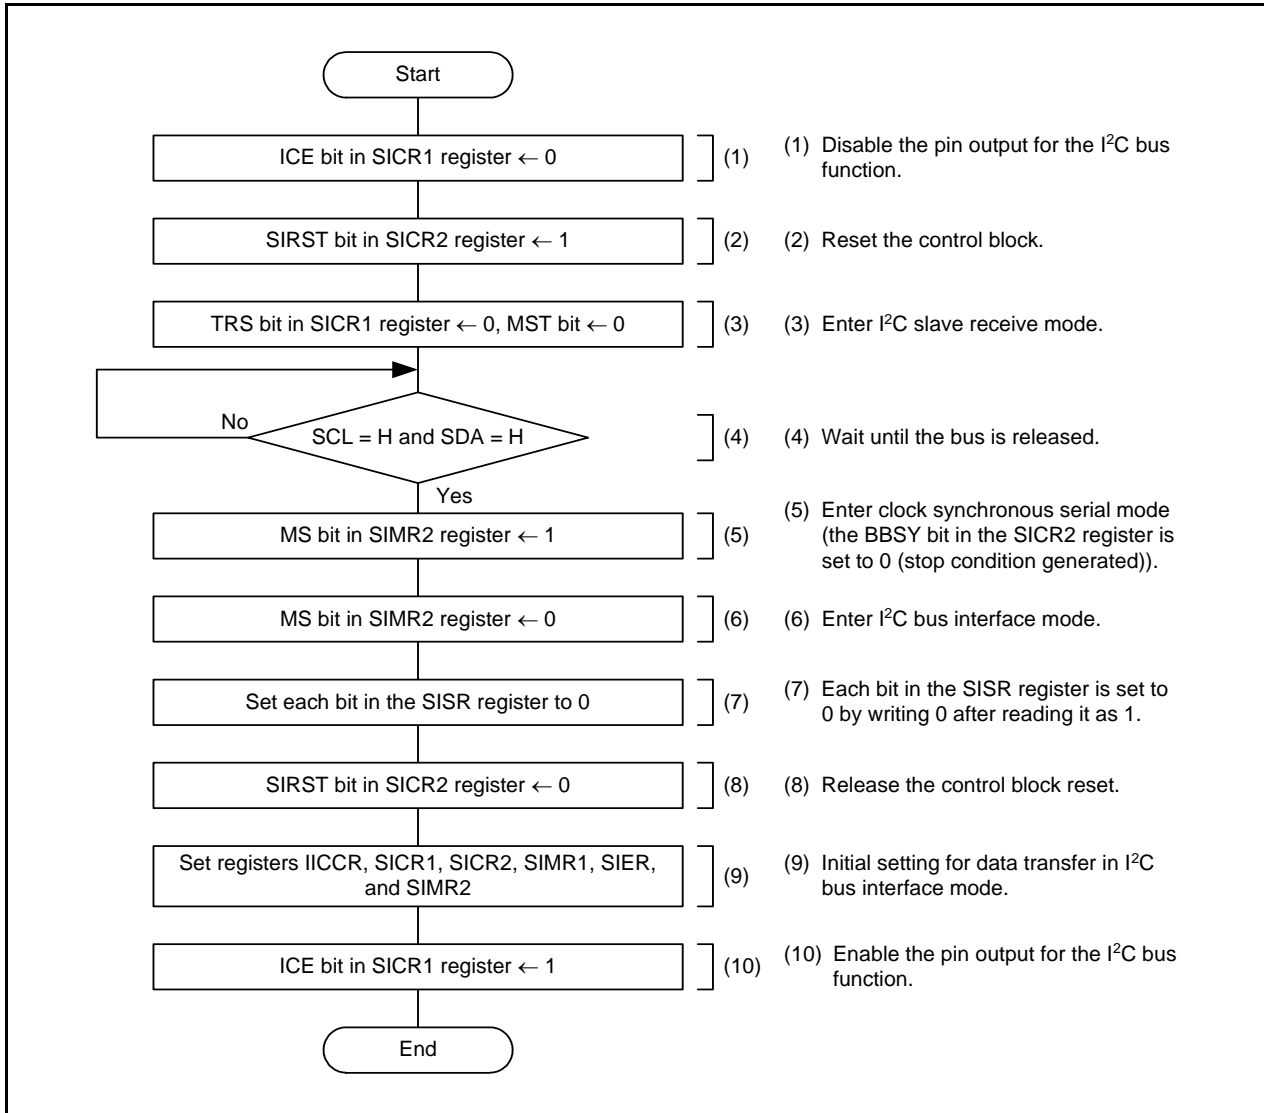

Figure 20.37 Procedure for Resetting Control Block in I2C bus Interface Mode
In I2C bus interface mode, writing 1 to the SIRST bit in the SICR2 register can reset some of the I2C bus function registers and the control block. Figure 20.37 shows the Procedure for Resetting Control Block in I2C bus Interface Mode.
When the control block is reset ((2) in Figure 20.37), the corresponding IR bit for the ICU may be set to 1 (interrupt requested). For the notes on clearing the IR bit, see **11. Interrupts**.